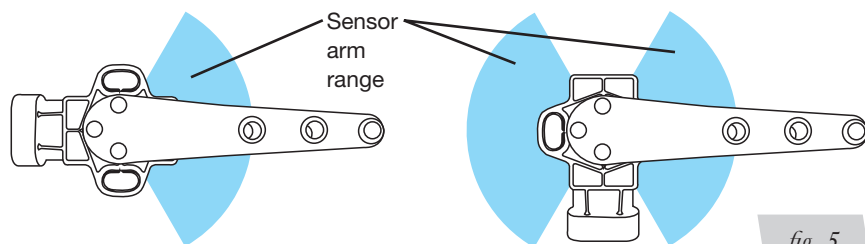

fig. 5
1. Shape the bracket to position the sensor where it needs to be to take full advantage of the maximum range of the height sensor (Fig. 5).